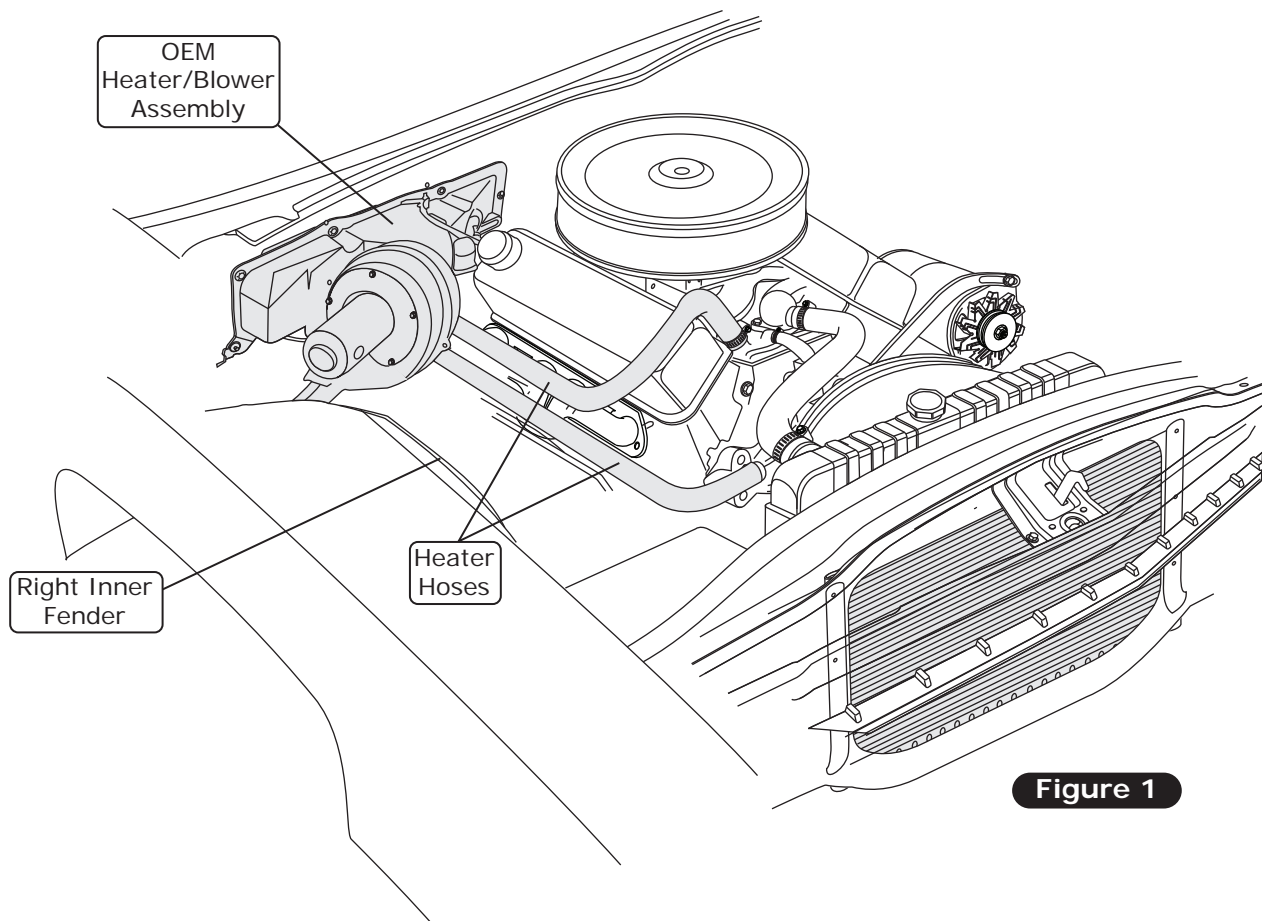

Figure 1
4. Remove the OEM heater hoses (discard) (See Figure 1, below).
5. Remove the OEM heater/blower assembly (discard) (See Figure 1, below).